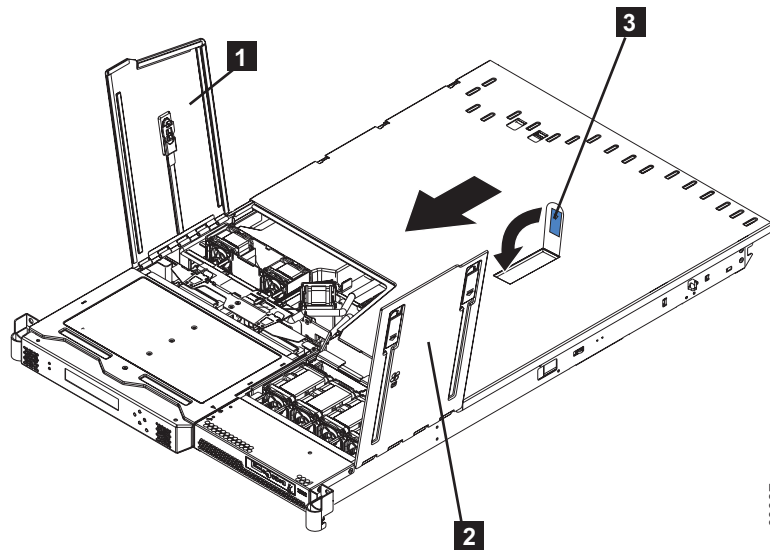

Figure 83. The SAN Volume Controller 2145-8F2 with fan doors open
3. Press down on the cover release latch **3** until the cover properly engages all the inset tabs on the SAN Volume Controller 2145-8F2. See Figure 83.